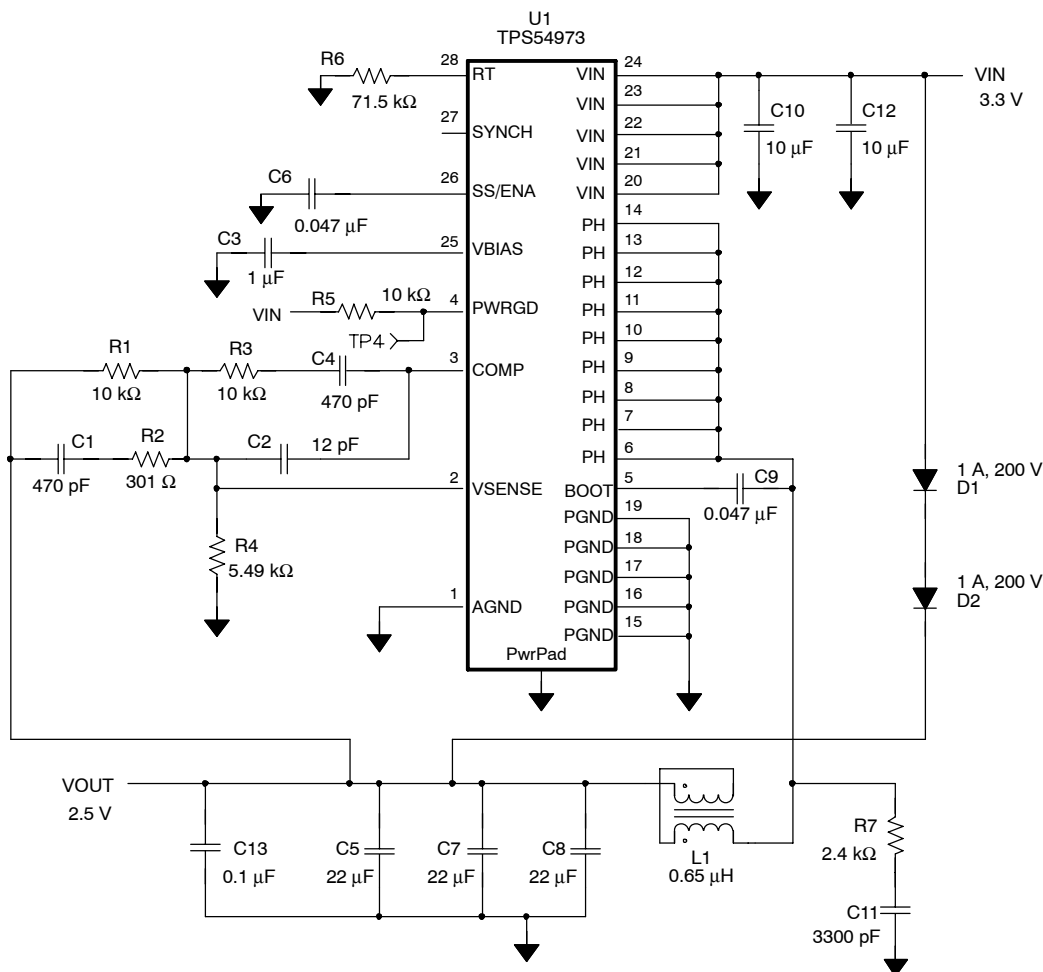
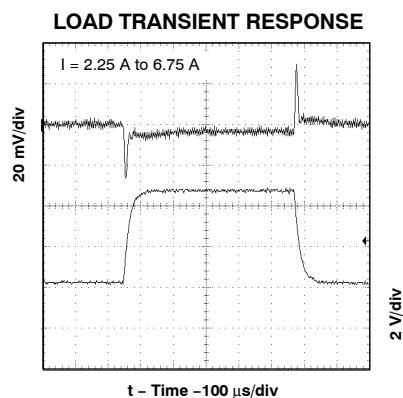

Figure 9. Application Circuit
Figure 18
(1) Specified by design
(2) Static resistive loads only
(3) Specified by the circuit used in Figure 9
⁽³⁾ Specified by the circuit used in Figure 9
Figure 9 shows the schematic diagram for a typical TPS54973 application. The TPS54973 (U1) can provide up to 9 A of output current at a nominal output voltage of 0.9 V to 2.5 V, and for this application, the output voltage
Data shown is for the circuit in Figure 9 with precharge disabled (D1 and D2 removed) except for slow-start timing of Figure 18. All data is for $V_I = 3.3\text{ V}$, $V_O = 2.5\text{ V}$, $f_s = 700\text{ kHz}$ and $T_A = 25^\circ\text{C}$, unless otherwise specified.